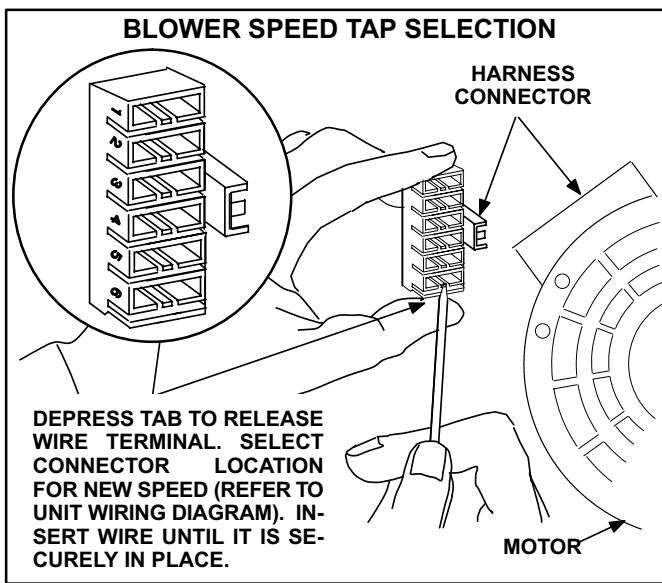

FIGURE 16
- 9- Depress harness connector tab to release wire terminal. Select connector location for new speed (refer to unit wiring diagram). Insert wire terminal until it is securely in place. See figure 16.